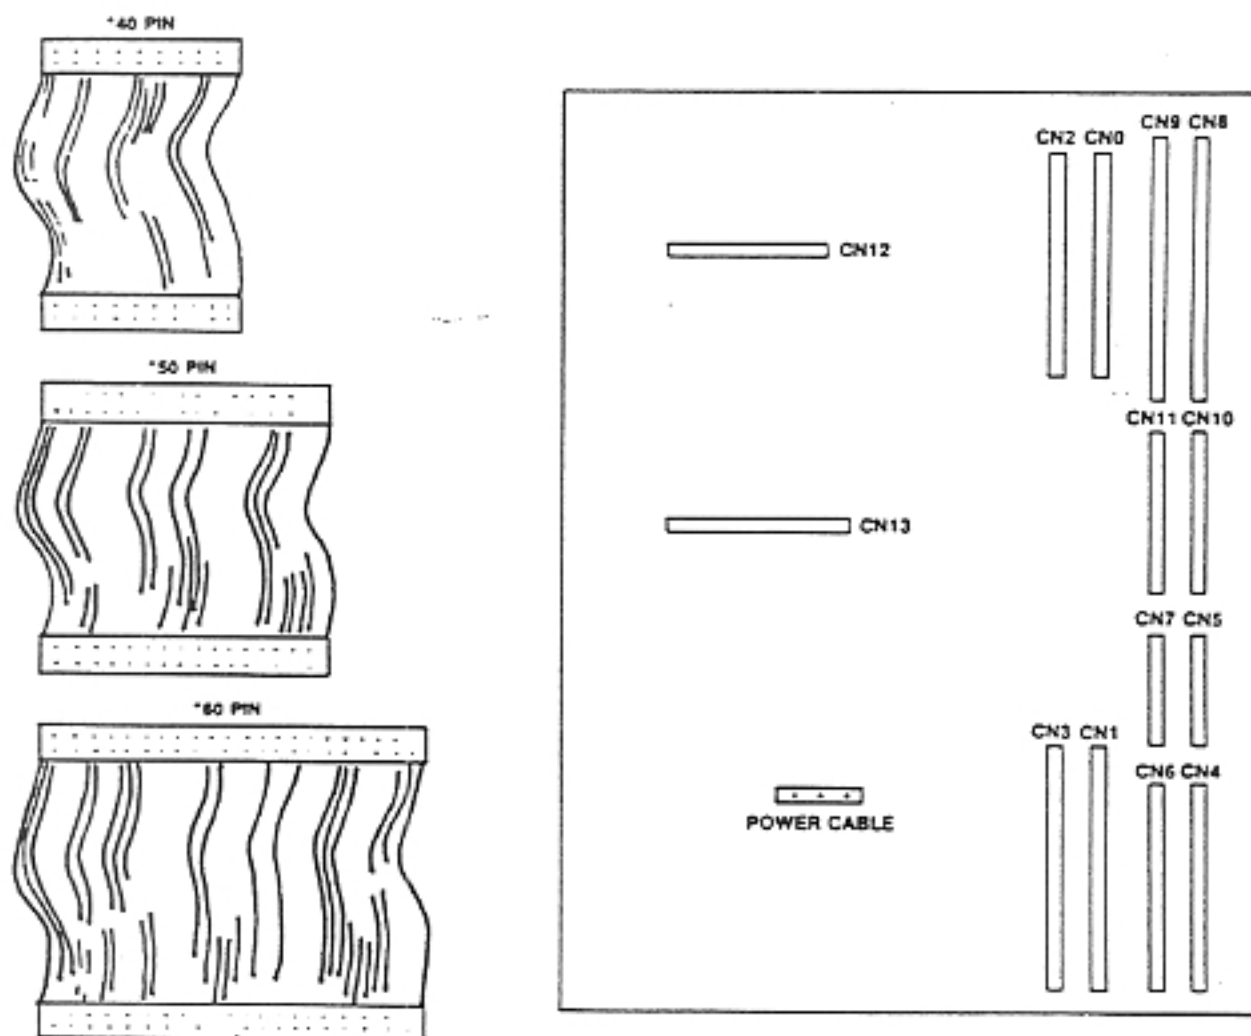

Figure 1-33 Expansion Control Unit
3. WHEN INSTALLING THE CIRCUIT CARDS, CHECK THAT THE CARDS ARE PROPERLY POSITIONED IN THE CARD FILE TRACKS. Ensure that all cables are properly connected before fully inserting the cards into the cabinet. Inserting a card that is not positioned or connected correctly will damage the card. Secure all cards with the card file sliding bracket. Refer to Figure 1-33 for proper card positioning.
* Also refer to Figure 1-33
*Also refer to Figure 1-33
This card is the decentralizing control unit for the ESU. Its primary function is to communicate with the CPU card in the KSU as it maintains control of the COU cards and STU cards in the ESU. It also provides expansion matrices for station additions. Figure 1-33 shows the basic construction of the ECU. It will be necessary to interface the power cable provided inside the ESU with the power connector on the ECU card while installing the ECU into the card file. Note the standoffs provided on the ECU card. These standoffs will be used for interface with the EMU described in the following paragraph. Table 1-13 lists the cable interfaces for installation of the ECU.